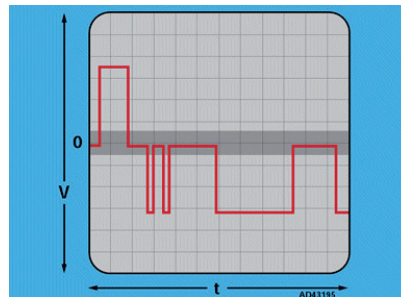

Fig 26 - Idle air control (IAC) valve wave form
- Compare scope trace with wave form reference *Fig 26*.